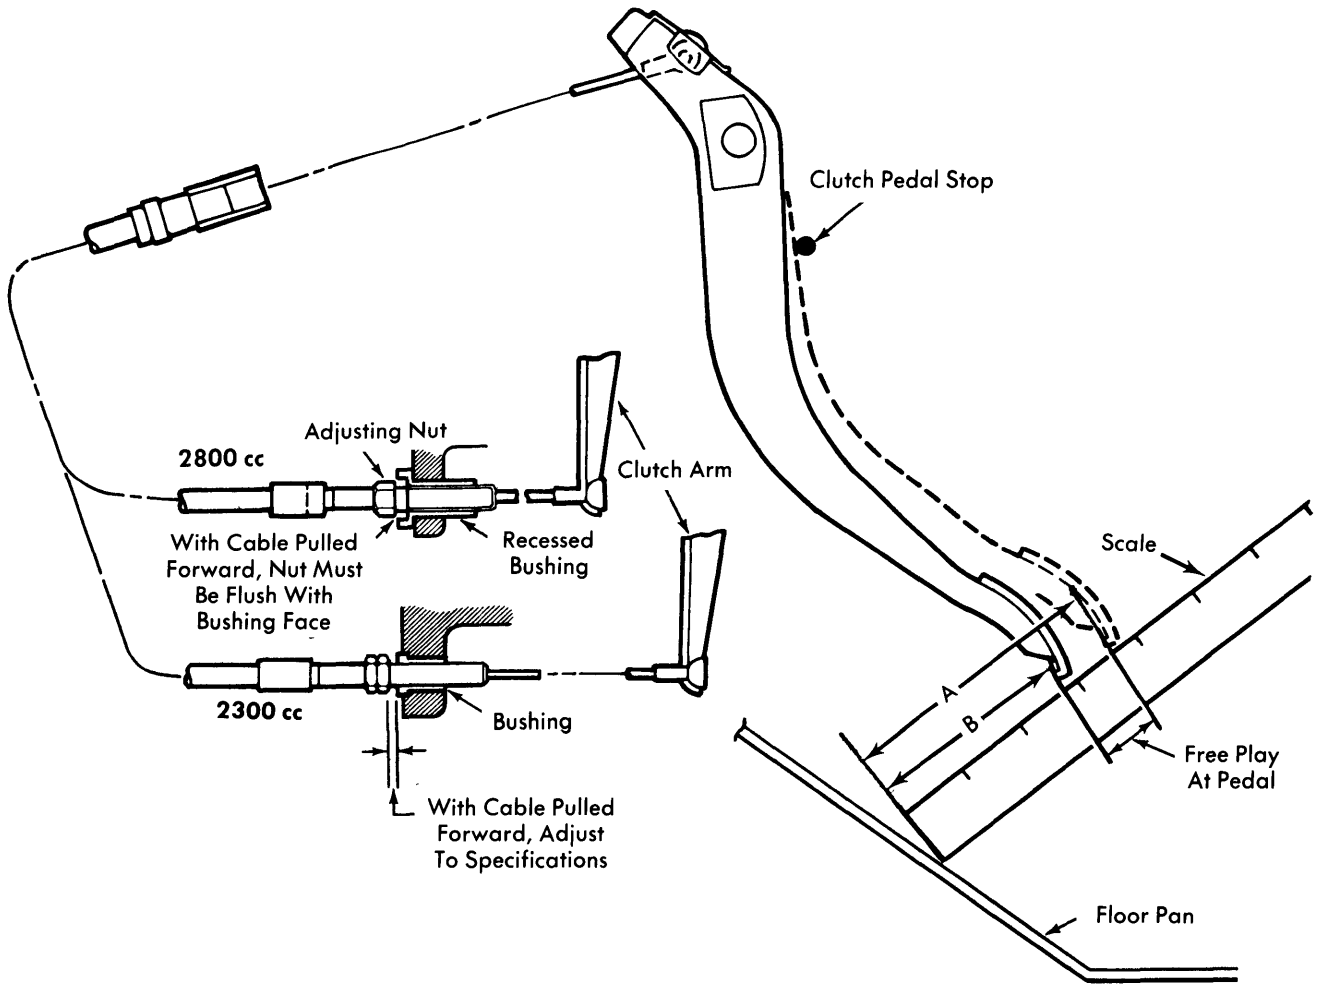

Fig. 2 Capri Clutch Cable Adjustment Procedures
2) Before making further adjustments, depress clutch pedal to floor twice. With clutch pedal retained in position against back stop, measure distance "A" (Fig. 2). Depress clutch pedal fully and release easily; measure distance "B" (Fig. 2). Difference between measurements should be .866-1.02" (22-26 mm).
2) Before making further adjustments, depress clutch pedal to floor twice. With clutch pedal retained in position against back stop, measure distance "A" (Fig. 2). Depress clutch pedal fully and release easily; measure distance "B" (Fig. 2). Difference between measurements should be 1.06-1.22" (27-31 mm).